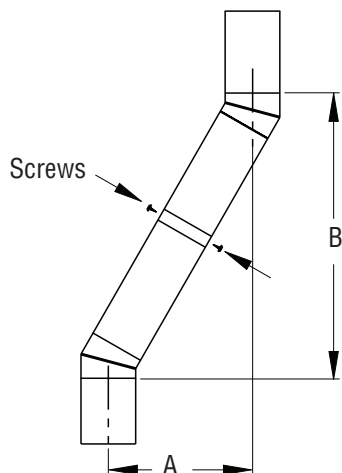

Figure 12 - Elbow Offset
Continue to assemble chimney sections as outlined, making sure that both inner and outer pipe sections are locked together. When installing double wall snap-lock chimney together, it is important to assure joint between chimney sections is locked. Check by pulling chimney upward after locking. Chimney will not come apart if properly locked. It is not necessary to add screws to keep chimney together (exception - see Figure 12, page 10).
4. All pipe connections between offset and return must be secured with two screws on outer pipe only (see Figure 12, page 10). Do not penetrate inner stainless.